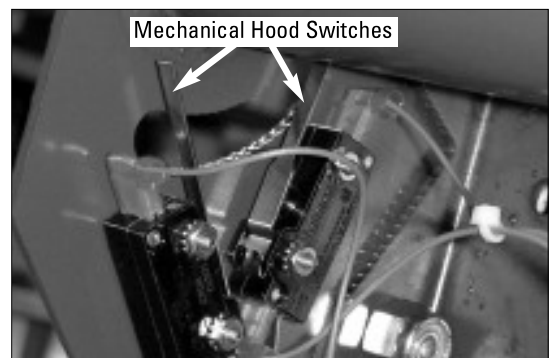
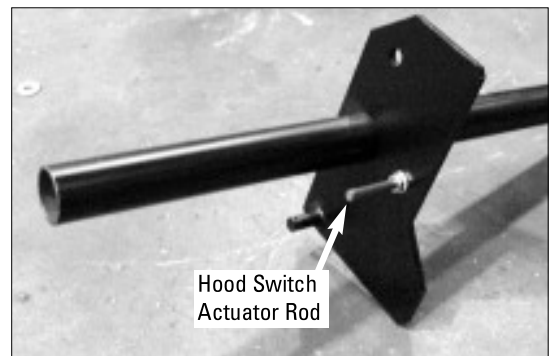

Figure 4 - Mechanical Hood Switches inside the Hood Bracket
Figure 5 - Actuator Rod on the Hood Bar Assembly
9. Locate the slot on the hood bracket labeled "Install Pin Here". The slot is covered by Styrofoam to separate and protect the mechanical switches, shown in figure 4, that are located inside the hood bracket. During installation the switch actuator rod (figure 5) located on the hood assembly can damage these switches if you are not careful.